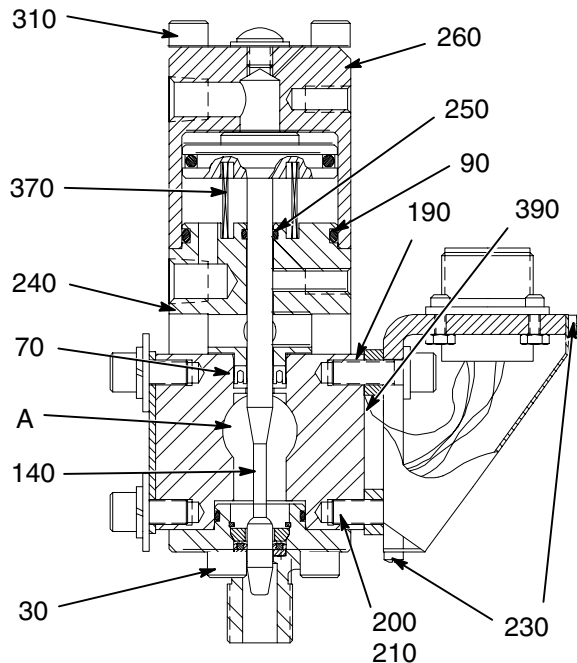
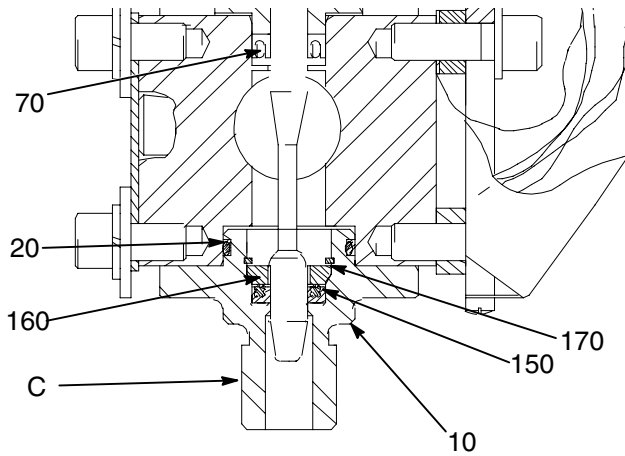

Fig. 9 Snuff-Back Valve Shown
Fig. 10 Snuff-Back Valve Shown
- a. Remove the two screws (230) from the connector cover. Then remove the connector cover.
- b. Remove the two socket head screws [Fig. 9, Item (200)], two washers (210), and carefully separate the receptacle and grounding ring (390) from the dispense valve body. The heater cartridge (270) and sensor (320) will come out of the dispense valve body (Fig. 15).
4. Remove the four socket head screws (310) and pull cylinder cap (260) and cylinder base (240) from the dispense valve body (190). The needle and piston remain with the cap and base.
6. Remove needle from either the cap or the base (depending on which piece it went with.) When the needle is separated from the base, the closure spring (370) falls out.
7. Using an o-ring pick, remove dispense valve body seal (70).
8. Disassemble adapter assembly (Fig. 10):
- a. Unscrew nozzle adapter (C).
- b. Remove three socket head screws (30 in Fig. 9).
- c. Remove seat adapter (10). Contains seat on base seal valves.
- d. Remove retaining ring (170) from adapter seat (Fig. 10). Not on base seal guns.
- e. Remove seal (150) and spacer (160) from adapter seat (Fig. 10). Not on base seal guns.
- f. Remove o-ring (20) from adapter seat.
2. Reassemble adapter assembly (Fig. 10):
- a. Lubricate and replace o-ring (20).
- b. Lubricate and replace seal (150) and spacer (160). Make sure the seal energizer faces toward the material pressure.
- c. Replace retaining ring (170).
- d. Replace seat retainer (10).
- e. Insert and tighten three socket head screws (30 in Fig. 9).
- f. Screw on nozzle adapter (C).
3. Lubricate then replace dispense valve body seal (70). Make sure the seal energizer faces toward the material pressure.
- a. Remove the two screws from the connector cover [Fig. 9, Item (230)] and remove the receptacle cover.